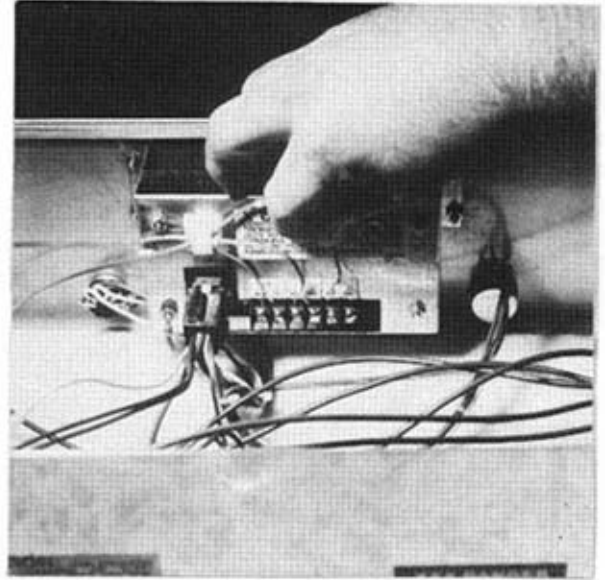

FIG. 9
15. Remove nylon cord from thermocouple wire and observing red and yellow terminal connections, connect thermocouple wires to circuit board (See Figure 9).
16. Replace the two (2) screws securing power board bracket to escutcheon.
18. Replace the six (6) hex head screws and washers securing galvanized panel to bottom of cabinet.
20. Replace the six (6) screws securing top to side panels and place unit back into service.